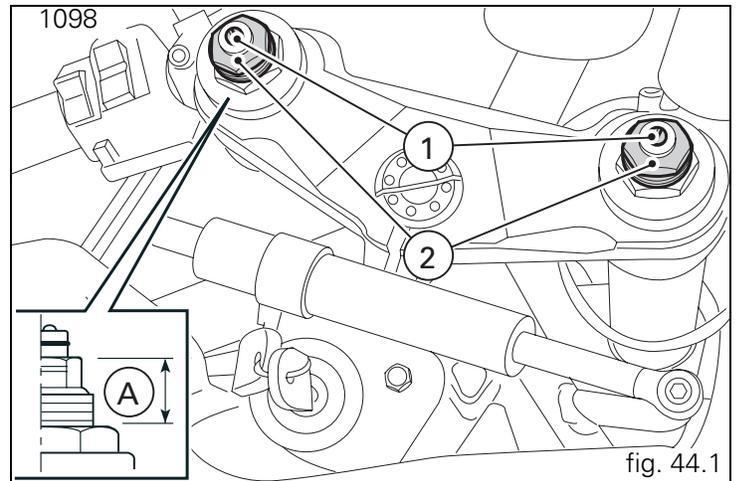
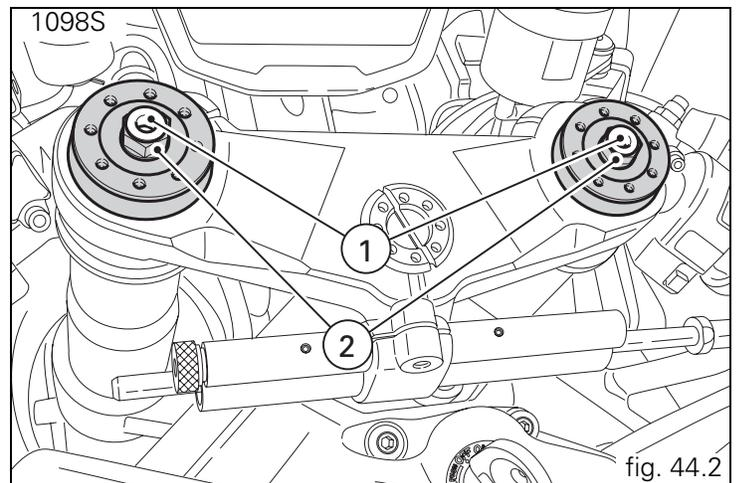

fig. 44.1
fig. 44.2
- 1) to adjust rebound damping (fig. 44.1 and fig. 44.2);
- 2) to adjust inner spring preload (fig. 44.1 and fig. 44.2);
To change the preload of the spring inside each fork leg, turn the hex. adjusting nut (2, fig. 44.1 and fig. 44.2) with a 22 mm hexagon wrench.